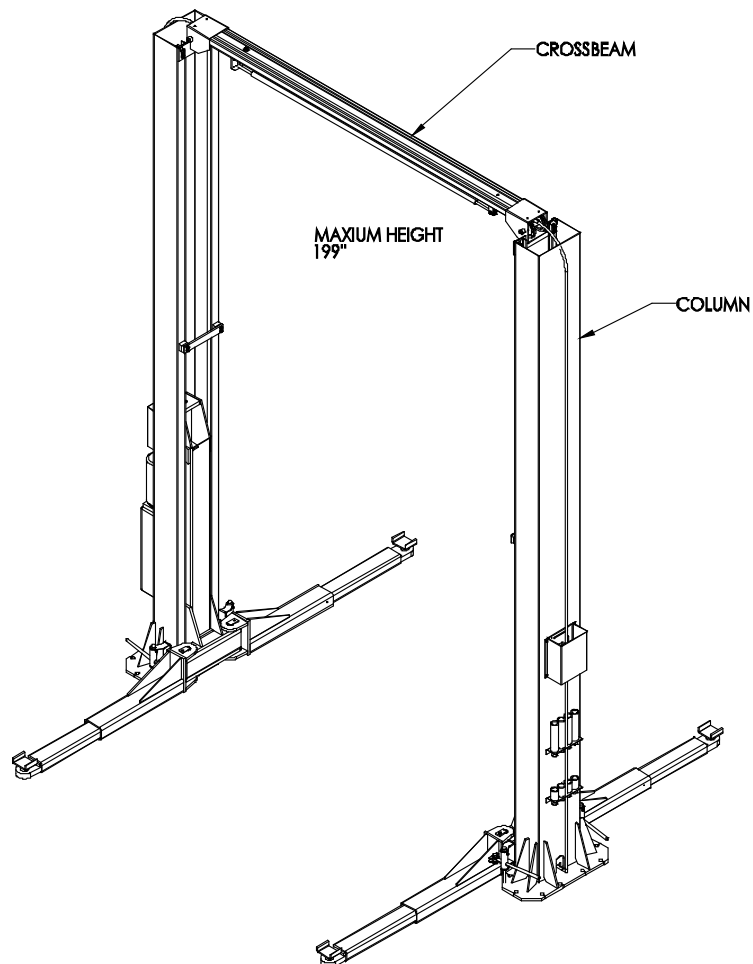

FIG. 2
3. VERTICAL AND HORIZONTAL PROFILE INSTALLATION (See Fig. 2)